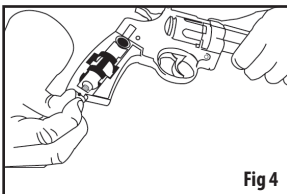

Fig 4
- Hold the airgun by the barrel with one hand and with the other hand; slowly turn the piercing lever counterclockwise until it stops. (Fig. 4)